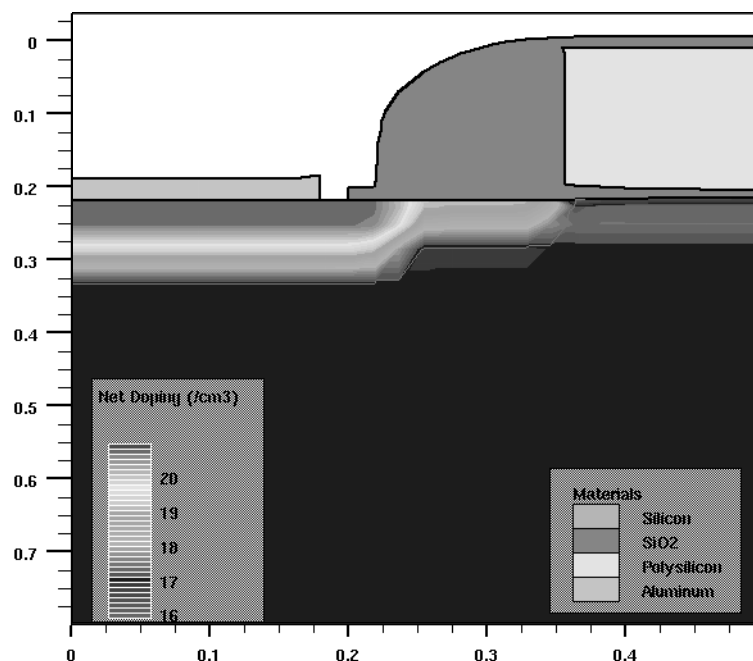

Figure 2-21: The Material Regions and Net Doping Contours of the Simulated Structure
Before proceeding to the parameter extraction statements, it is a good idea to remind yourself of the present form of the simulated structure (Figure 2-21).
- Where in the source/drain region you want the junction depth to be determined. The depth of the junction varies from `xj`, the value you are looking for within the body of the source/drain region, to zero at the edge of the region. In order to extract the correct value for junction depth, a point within the body of the source/drain region must be used. In this example, the value `0.1mm` into the source/drain region is used. As shown in Figure 2-21, this value should yield the junction depth for the source drain region.